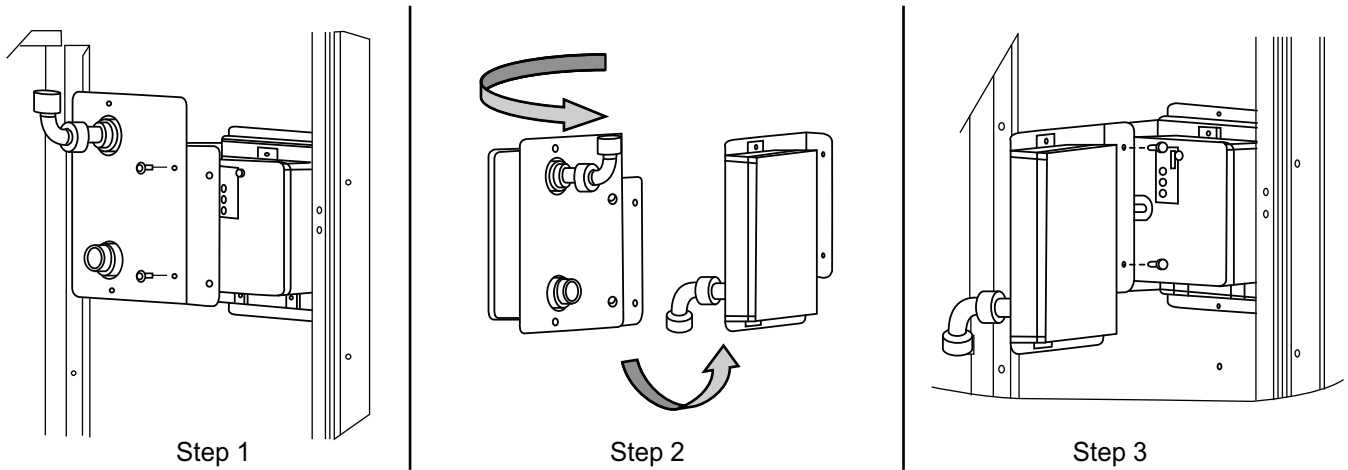

Fig. 56 — Completing Installation of Return-Air Smoke Sensor
1. Unscrew the two screws holding the return-air smoke detector assembly. See Fig. 56, Step 1. Save the screws.
2. Turn the assembly 90 degrees and then rotate end to end. Make sure that the elbow fitting is pointing down. See Fig. 56, Step 2.
3. Screw the sensor and detector plate into its operating position using screws from Step 1. See Fig. 56, Step 3.